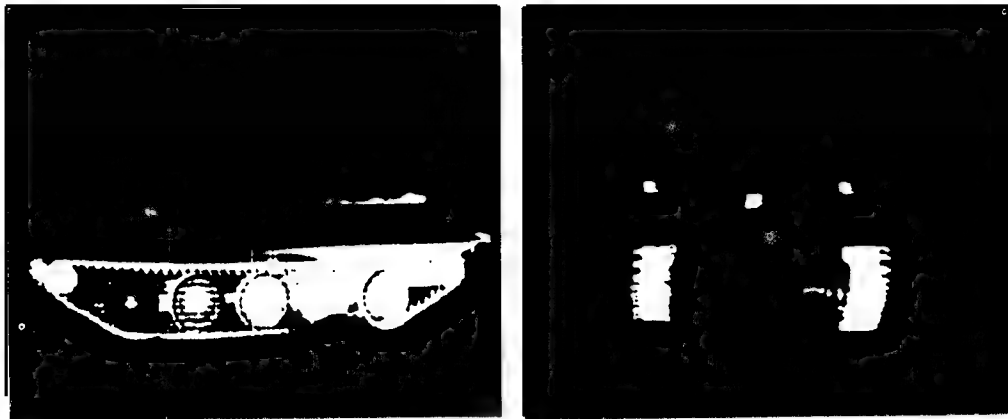

Figure I-3. M551 light tank.
- Figure I-3. M551 light tank (page I-6).